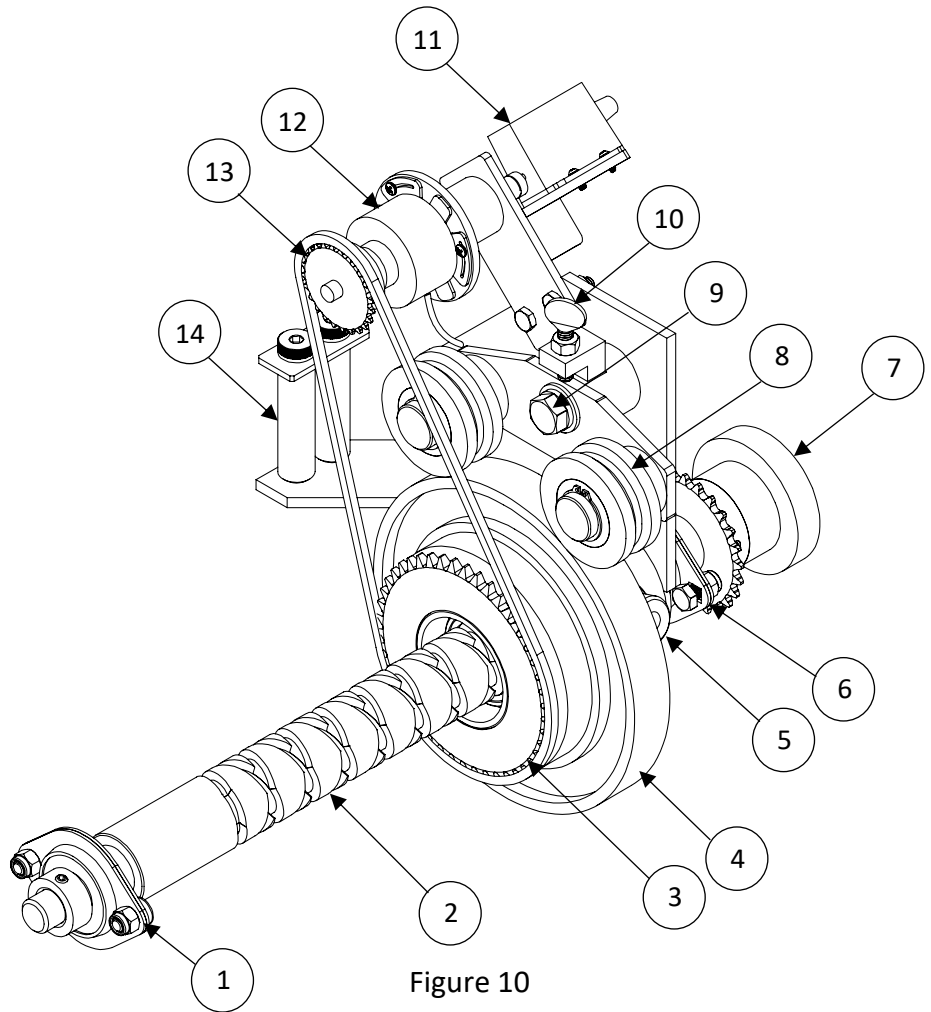
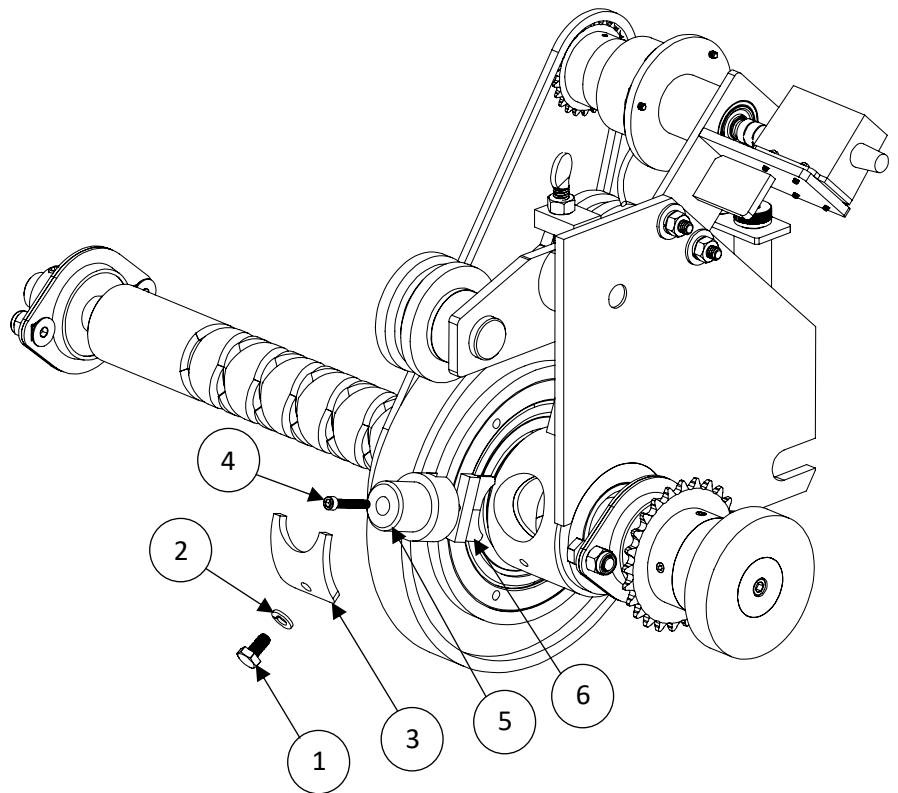

Figure 10
Figure 11
If cable windings become uneven, gapped, or bunched, the level-wind counter-sheave assembly should be adjusted. The metal adjustment knob (Figure 10 Item 7) on the end of the level-wind axel engages and disengages to move the counter-sheave assembly back and forth.
To adjust the level-wind, pull and hold the adjustment knob (Figure 10 Item 7) out, then turn it to move the counter-sheave assembly so that the level-wind trails (follows) the cable windings on the spool. When correctly adjusted, the cable should lay, wrap by wrap, without gaps, overlays, or bunching.
1. Remove the ¼-20 bolt, washer, and the metal keeper (Figure 11 Items 1, 2, and 3) holding in the small knob on the front of the counter-sheave assembly.
2. Remove the key assembly (Figure 11 Items 4, 5, and 6).
3. Remove the socket screw (Figure 11 Item 4) from the key holder (Figure 10 Item 5) and take out the worn brass key (Figure 11 Item 6).
5. Re-insert and tighten the socket screw (Figure 11 Item 4) into the key holder and new brass key (Figure 11 Items 5 and 6).
6. Re-engage the key assembly (Figure 11 Items 4, 5, and 6), and then secure it with the ¼-20 bolt, washer, and the metal keeper (Figure 11 Items 1, 2, and 3).